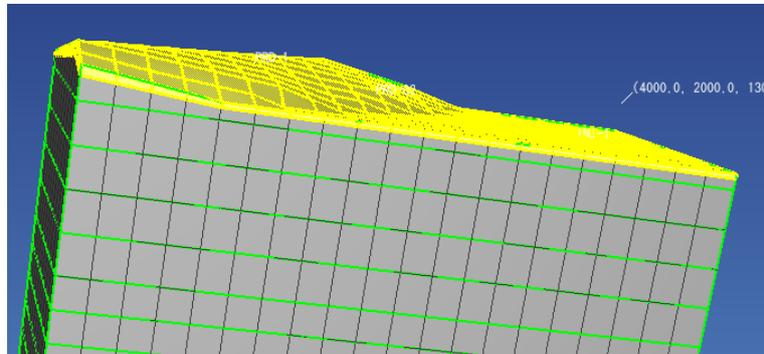

Figure 9. Initial condition for top surface as atmosphere.
3. Right-click on the selected cells and click **Edit Cells...**(Figure 9)